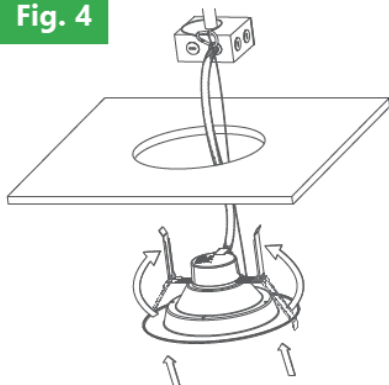

Fig. 5
6. Install the down light by lifting both retention tabs upward. (Fig. 5)
6. Push until the trim sits flush against the ceiling. (Fig. 5)